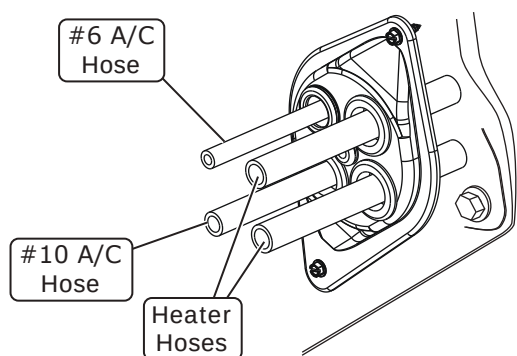

Figure 1
1. Route A/C and heater hoses through fresh air cap and kick panel plate as shown in Figures 1 and 1b, below.